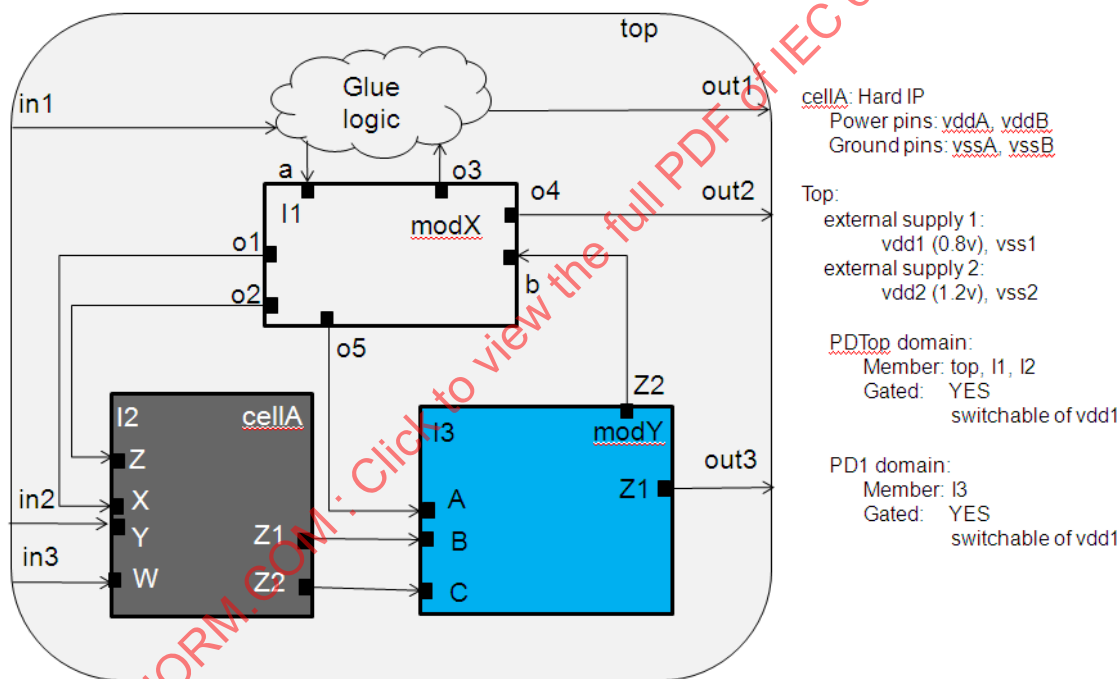
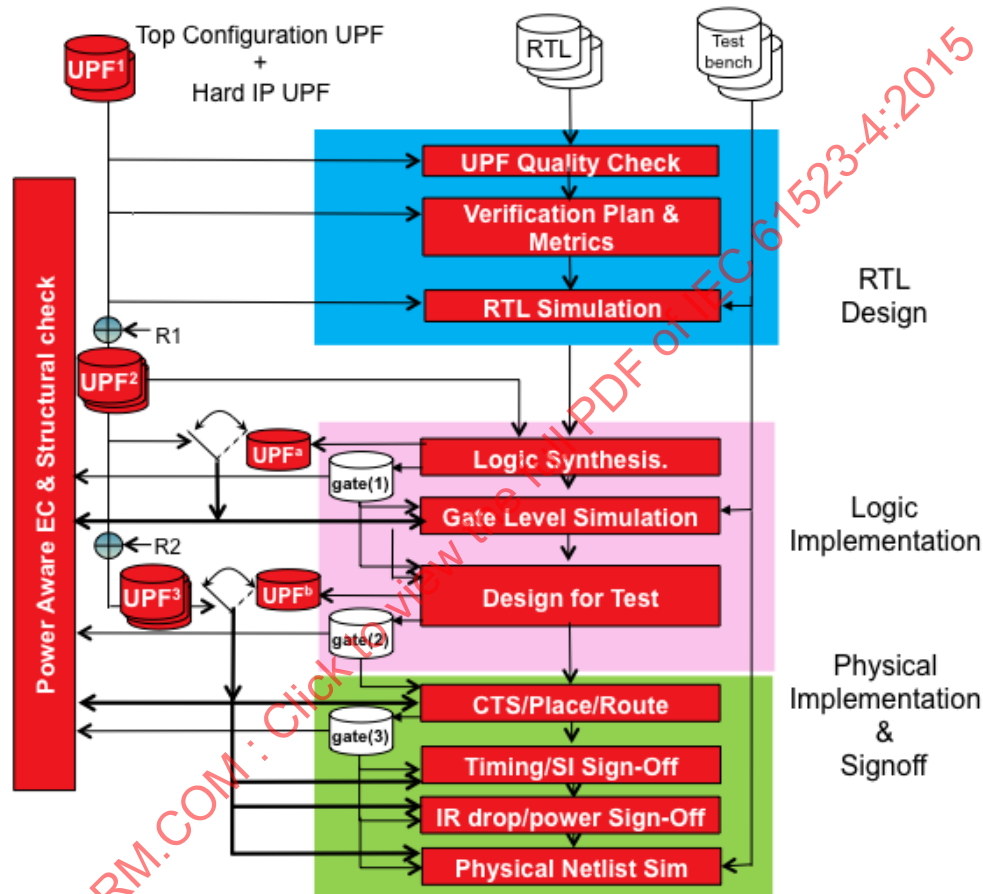
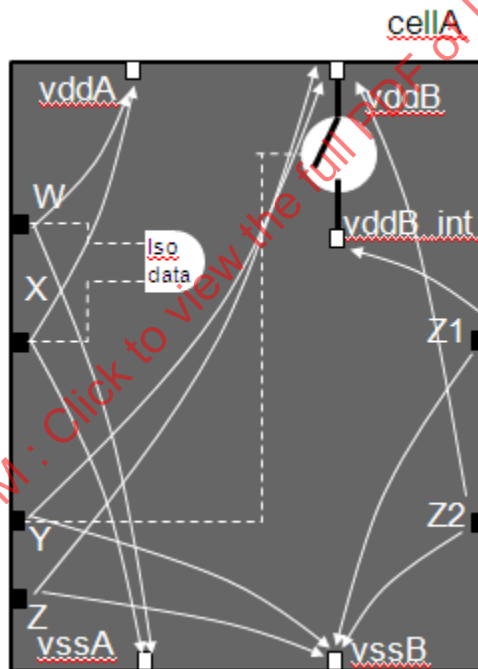

Figure E.1—Simple soft IP design
Figure E.2—Typical UPF design flow
Figure E.3—Internal power structure of the hard IP
In a typical design flow, a soft IP is implemented independently with its own timing, power, and other constraints. Similarly, a power intent file can be created for this soft IP to drive the design, verification, and implementation of its power-management architecture. Consider the simple soft IP shown in Figure E.1.
Figure E.2 illustrates a typical UPF design flow for a soft IP like the one shown in Figure E.1.
For each of the three design stages shown in Figure E.2, the design example in Figure E.1 illustrates how the UPF shall be created, used, and passed on to the later stages of the design flow. Starting from RTL design, followed by logic implementation, and then physical implementation, this annex shows how to leverage the configuration UPF (UPF^1 in Figure E.2) to create the power intent with the successive refinement methodology for later stages of the flow. Some best practices on how to create a flow to make sure the configuration UPF can be used at every stage will be discussed as well.
The configuration UPF is created at this stage, which typically includes the UPF for the RTL soft IP and the UPF for the hard IPs instantiated within the soft IP. The UPF created at this stage is often referred to as the *configuration UPF*, denoted as UPF^1 in Figure E.2.
Figure E.3 illustrates the internal power structure of the hard IP `cellA` in the example of Figure E.2. The diagram shows the internal power connections and components within the cell. The top boundary pins are `vddA` and `vddB`, and the bottom boundary pins are `vssA` and `vssB`. The internal structure includes a central block labeled `cellA` with a thick black line representing a power connection. A dashed box labeled `iso data` is shown, indicating an isolated data path. The internal power nodes are labeled `W`, `X`, `Y`, `Z`, `Z1`, and `Z2`. The internal power supply is labeled `vddB_int`. The diagram shows how the boundary pins are connected internally to the power supply and ground nodes.
The power intent for the hard IP in Figure E.3 includes the following characteristics:
- Input ports W and X are related to v_{ddA}/v_{ssA} . Internally, port X has internal isolation. As shown in Figure E.3, port X is connected to the data pin of an isolation gate and W is connected to the enable pin of the same isolation gate inside of this hard IP.
In this example, the power domain PD is created to specify the three supply sets of the IP. The supply set handle SSAH is created for the power and ground ports `vddA` and `vssA`, and the supply set handle SSBH is created for the power and ground ports `vddB` and `vssB`. As indicated in Figure E.3, the hard IP has a data port Z1 related to the internally gated supply of `vddB`.
The following shows a sample configuration UPF for the RTL design in Figure E.1 for enabling power-aware RTL simulation and validation: